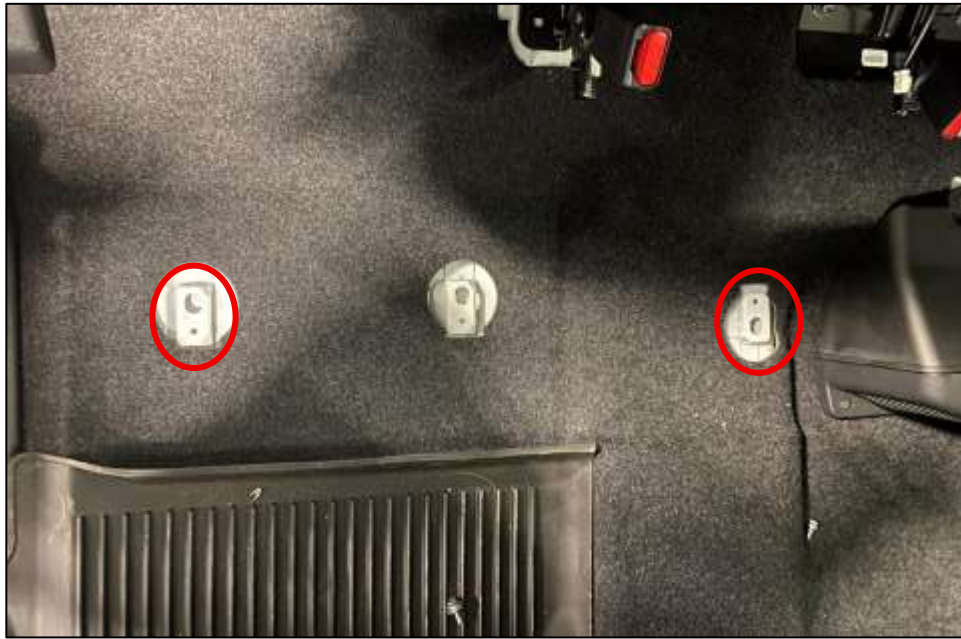

Figure 28
7. Install the Rubber Grommets into the slots in the Floor Pan. *Figure 28.*